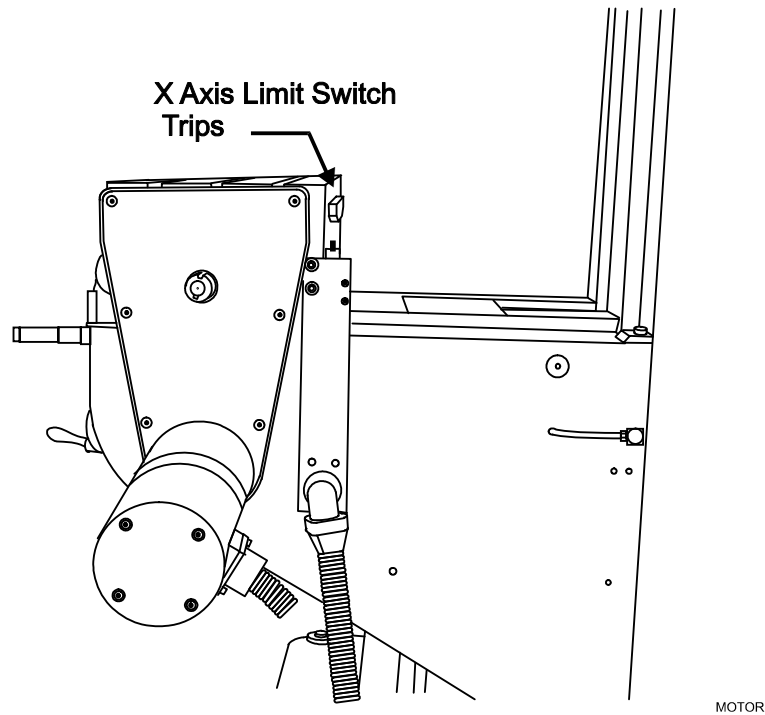

Figure 3-17, X-Axis Limit Switch Trip Installation
3. Refer to **Figure 3-17, X-Axis Limit Switch Trip Installation**. Install the X-axis trips. Turn the X-axis handwheel until the table edge is flush with the right side of the saddle.